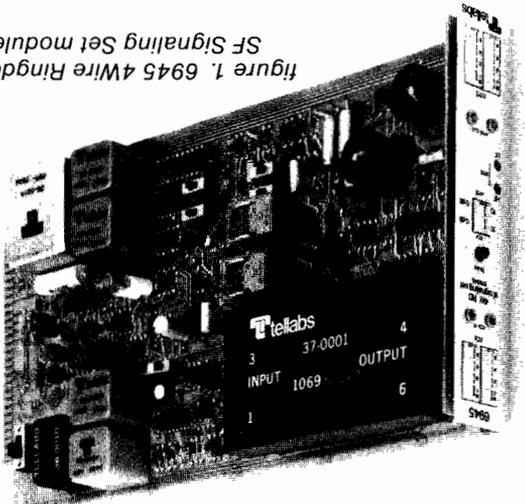

figure 1. 6945 4Wire Ringdown SF Signaling Set module
1.01 The Tellabs 6945 4Wire Ringdown SF Signaling Set module (figure 1) provides signaling and transmission interface between a 4wire transmission facility and a metallic 4wire ringdown signaling loop. Specifically, the module provides SF signaling over the 4wire facility, conversion between that SF signaling and the loop signaling used in automatic or manual ringdown applications, and extension of this ringdown signaling toward the 4wire termination. Level coordination in the transmit and receive paths is provided by means of adjustable precision attenuators. Conventional 2600Hz SF tone is standard. Other frequencies are optionally available by special order.